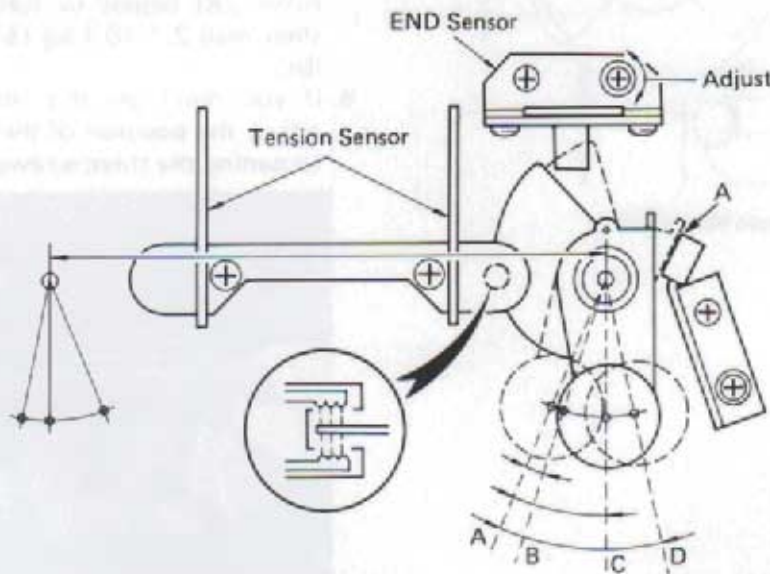
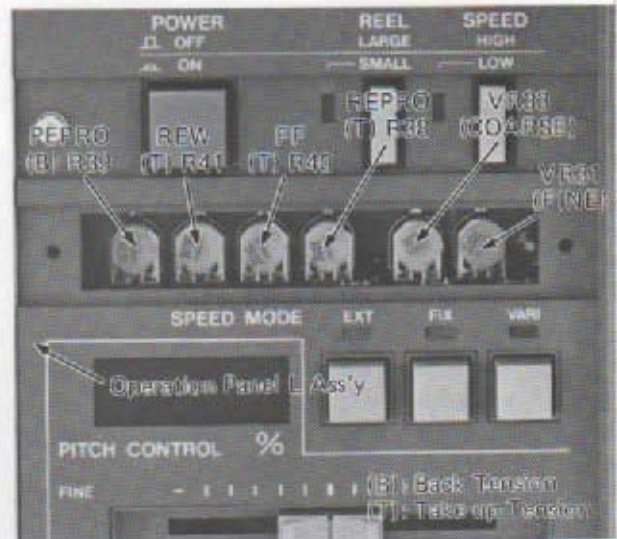
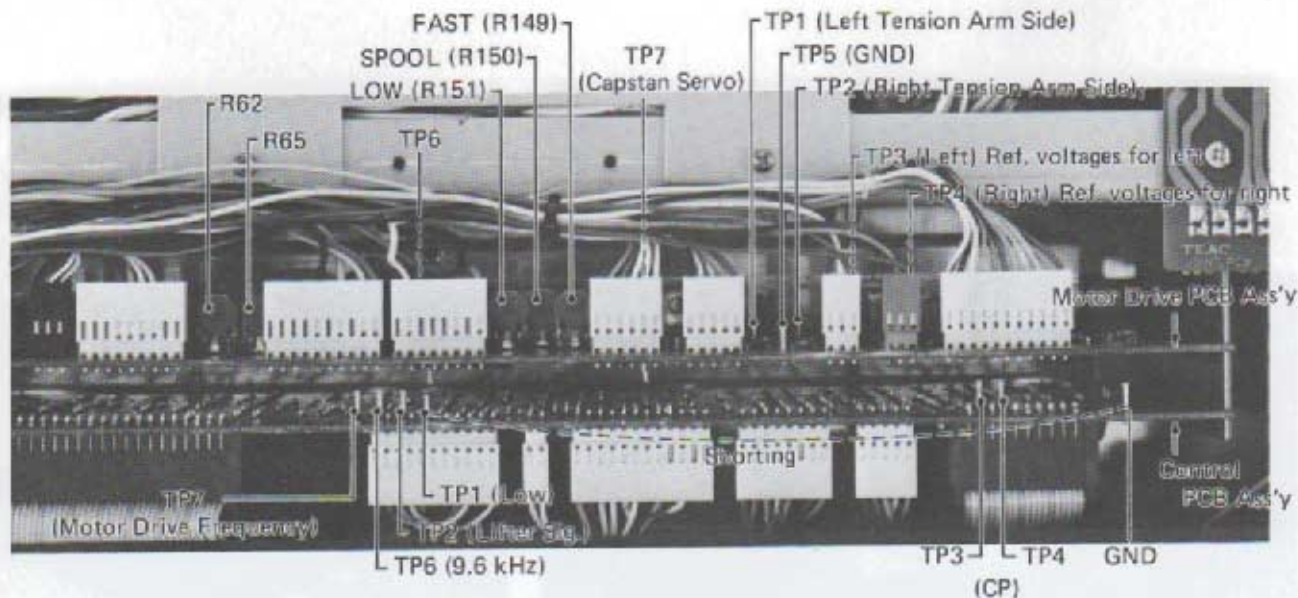
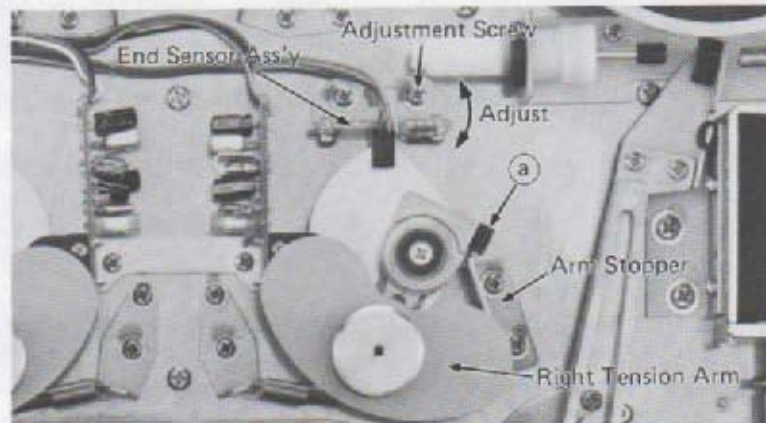

Fig. 9-4-5. Moving Position of The Tension Arm Ass'y
Fig. 9-4-6. Tape Tension Servo and Tape Speed Adjustment Pots
Fig. 9-4-8. Tape Tension Adjustment Pots and Test Points
Fig. 9-4-9. Arm Stopper and End Sensor Ass'y Position Adjustments
The movement of the tension arm between A – C in Fig. 9-4-5 develops voltage at TP-1 (left tension sensor output voltage) and TP-2 (right tension sensor output voltage). (Refer to Fig. 9-4-8 for the test point locations.)
1. Remove the front panel assembly as described in 9-3-1 (C).
3. With the deck in the edit mode, confirm that both tension arms are near the C position shown in Fig. 9-4-5 – about 22.5° from the free position A.
4. If adjustment of the angle is necessary, adjust by adjusting the trimmer resistor located on the upper part of the Operation Panel L assembly. Refer to Fig. 9-4-6.
1. Load a tape and run it in fast forward. Check that the tension arm on the take-up side stabilizes at the C position shown in Fig. 9-4-5. If it does not, correct it by adjusting FF(T), R40 shown in Fig. 9-4-6. Then, run the tape in rewind and check, as in fast forward, that the tension arm on the take-up side stabilizes at C. If it does not, adjust REW(T), R41.
1. Connect an oscilloscope between TP3 and GND on the Control PCB Ass'y, Fig. 9-4-8.
Adjust the mounting position of the arm stopper so that it reaches point (a) in Fig. 9-4-9 with tape unloaded (no tension applied to the tension arm: i.e., the right tension arm rests at point A in Fig. 9-4-5.).
1. Connect an oscilloscope (double trace type) to two sets of test points, TP3 and GND, and TP4 and GND, on the Control PCB Ass'y, Fig. 9-4-8.
- b. Connect the frequency counter to TP6 and GND on the Control PCB Ass'y, Fig. 9-4-8. Then, while keeping an eye on the frequency counter, adjust VR33 (COARSE) shown in Fig. 9-4-6 until a 9,600 Hz  $\pm 15$  Hz reading is obtained, and then fine-adjust VR31 (FINE) to 9,600 Hz.
1. Prior to making any adjustments to the capstan servo, connect an oscilloscope between test point TP7 and GND on the Motor Drive PCB Ass'y, Fig. 9-4-8; set R65 and R62 to their center positions and place the deck in play mode with a tape loaded.